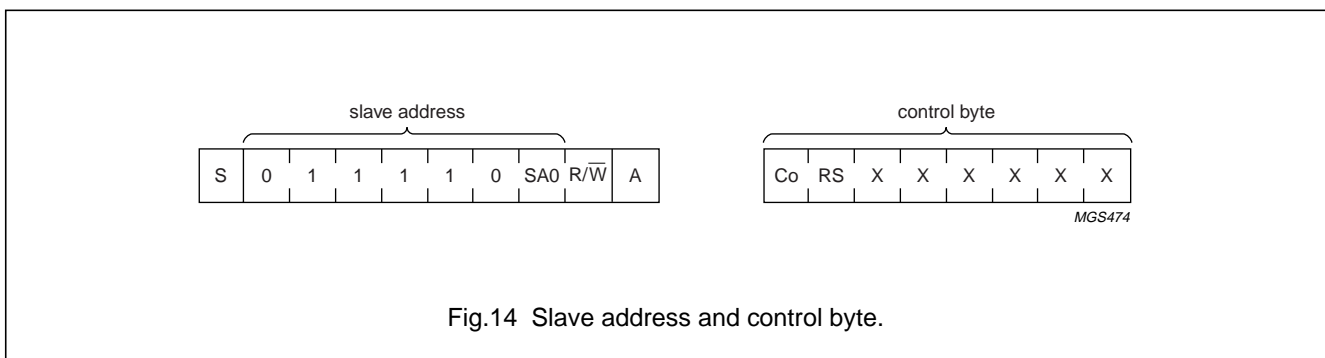

Fig.14 Slave address and control byte.
The I2C-bus protocol is illustrated in Fig.14.
The sequence is initiated with a START condition (S) from the I2C-bus master, and is followed by the slave address. All slaves with the corresponding address acknowledge in parallel, all others ignore the I2C-bus transfer. After acknowledgement, one or more command words follow, which define the status of the addressed slaves. A command word consists of a control byte, which defines Co and RS, plus a data byte (see Fig.14 and Table 1).